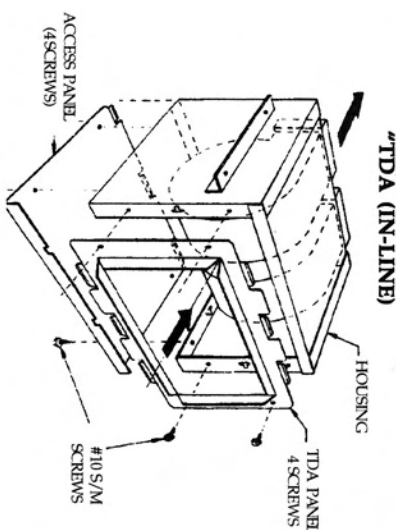

FIG.3
NOTE: As a standard, Super Q TDA's are furnished with an IN-LINE discharge as shown in Fig. 3.
- 1) DISASSEMBLE THE TDA PANEL FROM THE HOUSING; FIRST REMOVE THE FOUR #10 SHEET METAL SCREWS SECURING THE TDA PANEL TO THE HOUSING, THEN REMOVE THE ACCESS PANEL BY REMOVING THE FOUR #10 SCREWS. REMOVE BOTH PANELS AS SHOWN IN FIG. 3.